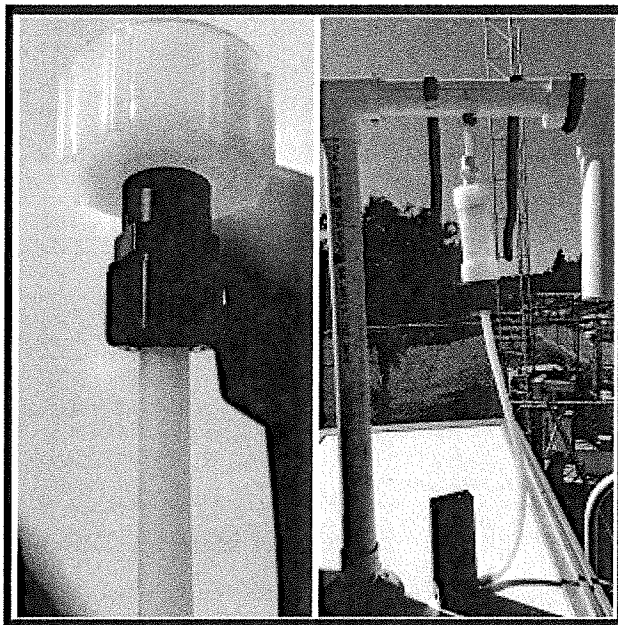

Figure 7: Connected calibration tubing.
- 3.2.3.2 Connect the calibration tubing to the multi-residue cartridge and to the ALICAT Flow Meter (High) (Figure 7).